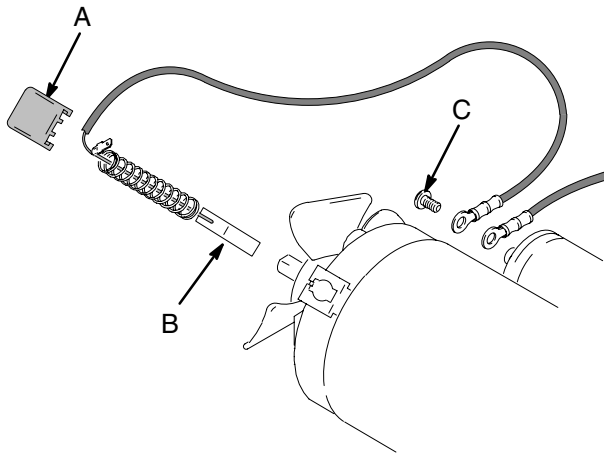

Fig. 4
- Fig. 4. Insert brush (B). Push clip (A) until it snaps into place and secures brush.
- Fig. 4. Install red (+) and black (-) motor leads according to tags. Install brush lead end with screw (C) to motor-mounted capacitor or route lead into control box and connect to board.